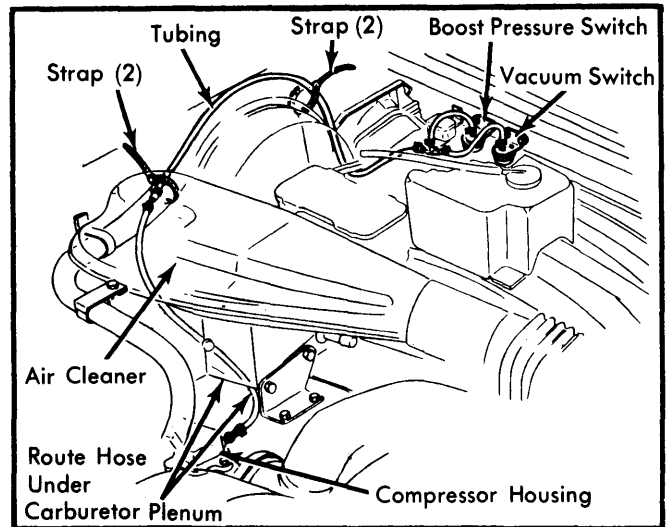

Fig. 3 Boost Gauge Switch Location On Buick Century & Regal Models
- 1) Install compound gauge (J-28474 or equivalent) into tubing between compressor and boost gauge switches. Use a "tee" fitting and suitable length of hose to place gauge in passenger compartment. See Fig. 3 and 4.